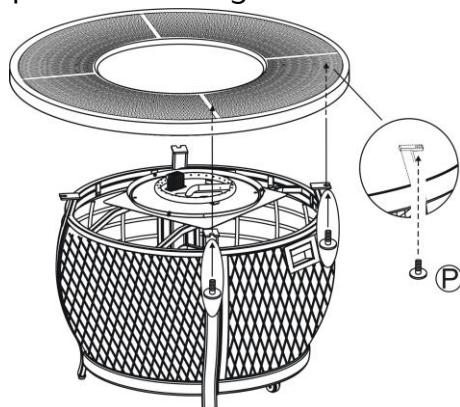

Figure 2
2. Place the fir pit table top onto the fire pit base. Secure the table top to the fire pit base by using the 1/4" x 20 mm screws that are provided. See Figure 2.